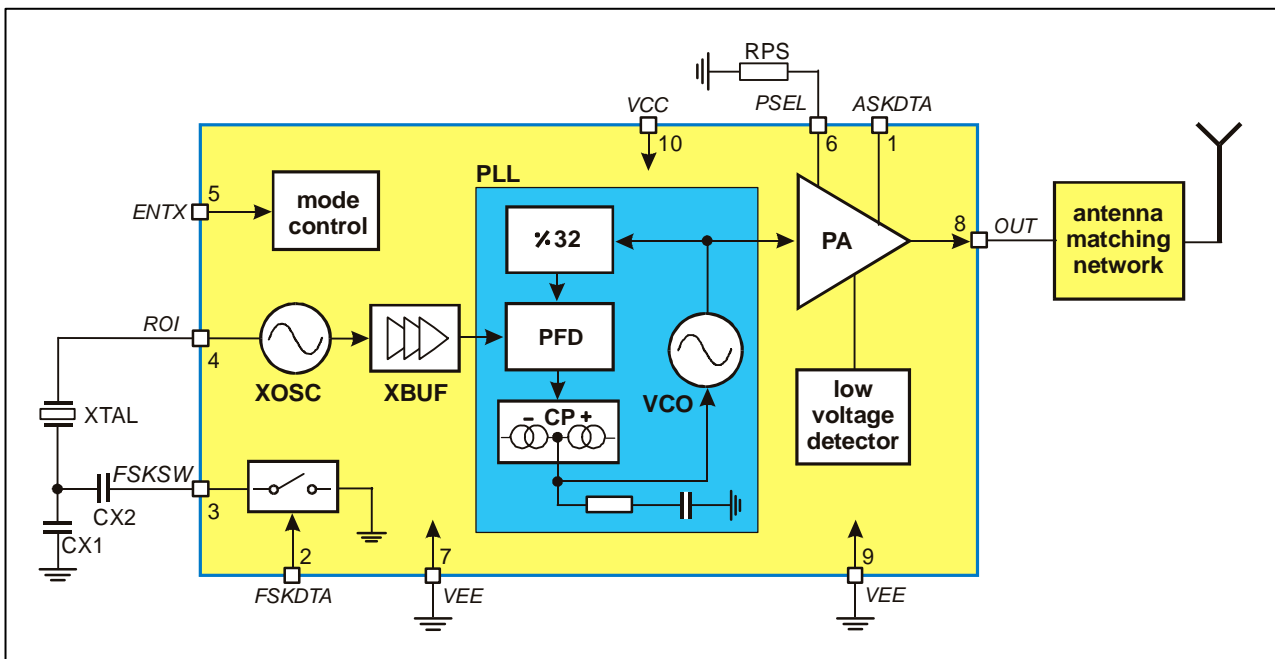

Fig. 1: Block diagram with external components
As depicted in Fig.1, the TH72035 transmitter consists of a fully integrated voltage-controlled oscillator (VCO), a divide-by-32 divider (div32), a phase-frequency detector (PFD) and a charge pump (CP). An internal loop filter determines the dynamic behavior of the PLL and suppresses reference spurious signals. A Colpitts crystal oscillator (XOSC) is used as the reference oscillator of a phase-locked loop (PLL) synthesizer. The VCO's output signal feeds the power amplifier (PA). The RF signal power P_{out} can be adjusted in four steps from $P_{out} = -11$ dBm to $+9.5$ dBm, either by changing the value of resistor RPS or by varying the voltage V_{PS} at pin PSEL. The open-collector output (OUT) can be used either to directly drive a loop antenna or to be matched to a 50Ohm load. Bandgap biasing ensures stable operation of the IC at a power supply range of 1.95 V to 5.5 V.